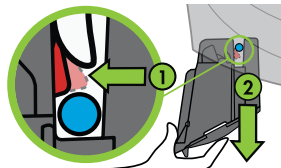

Figure 30
Use your finger to press down on the release tab to disengage LATCH bin from Base Attachment Bar (1), then slide LATCH Bin out (2), as shown in **Figure 30**.